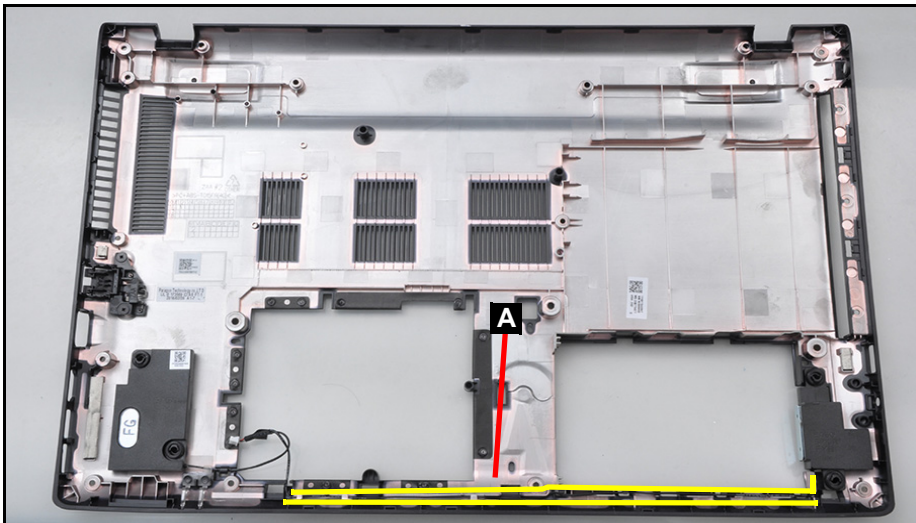

Figure 3-108. Replacing the Speaker Module
2. Route the speaker cable (A) along the cable guides (Figure 3-108).